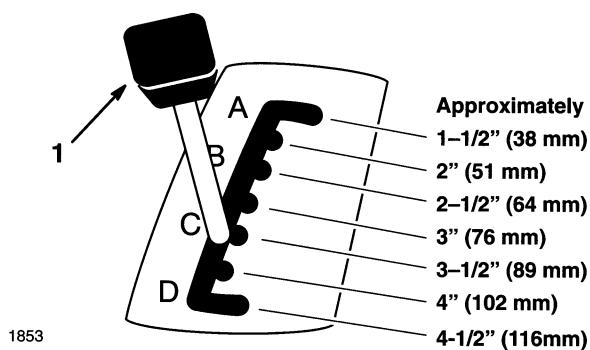

Figure 22
2. Pull on the height-of-cut lever (deck lift) and move it to the desired position (Fig. 22).